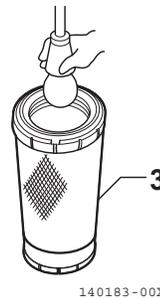

Fig. 8-48
6. After cleaning, illuminate the element (Fig. 8-48, 3) from inside with a light bulb and check it. If there are any small holes or thin areas, replace the element with a new one.
8. Install the cleaned elements (Fig. 8-48, 3) to the air cleaner case.